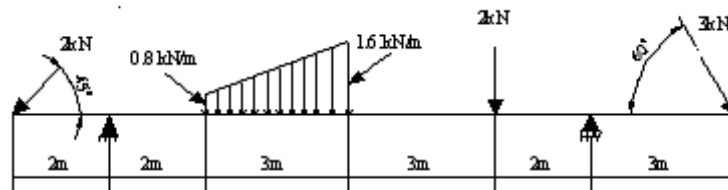

Figure 2
2. Draw the SFD and BMD for the beam loaded as shown in the Figure2. [16]